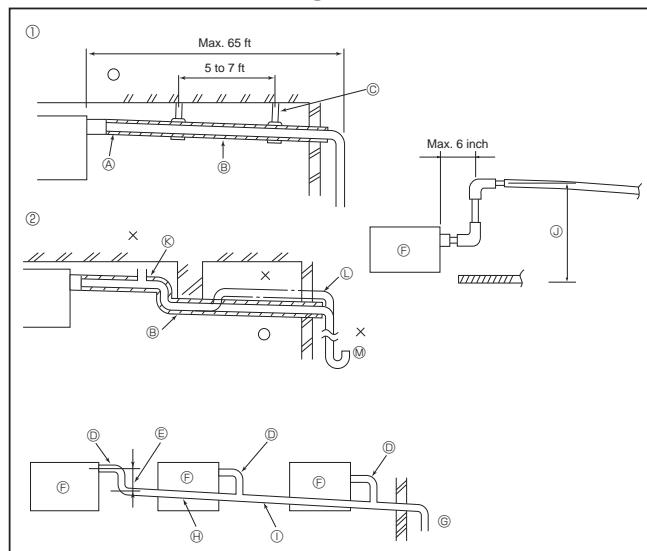

Fig. 3-4
3.4. Drainage piping work (Fig. 3-4)
⑩ Correct piping
⑪ Wrong piping
⑫ Insulation (9 mm, 23/64 inch or more)
⑬ Downward slope (1/100 or more)
⑭ Support metal
⑮ Air bleeder